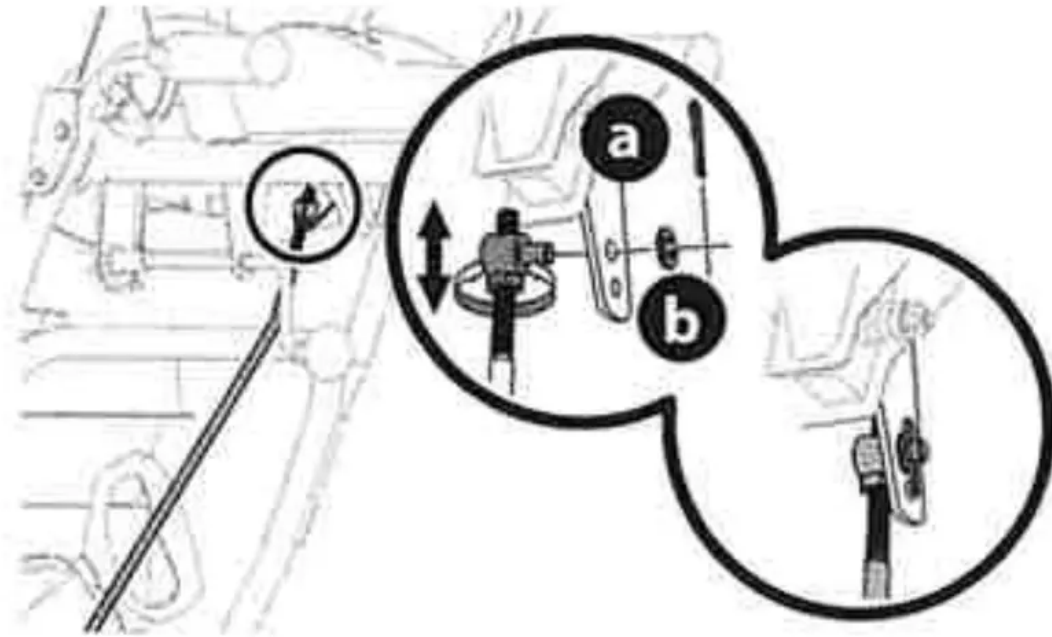

Figure 56
2. Remove cotter pin (a) and washer (b) From adjustment ferrule on shift rod and pull it out from shift lever (Figure 56).